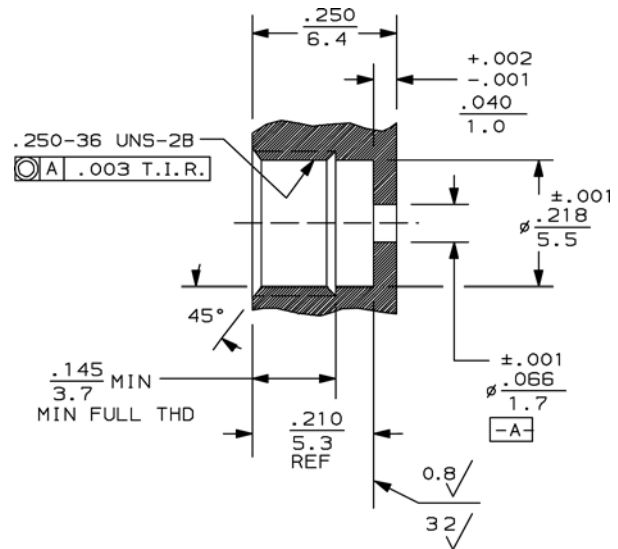

Figure 2
1. Refer to Figure 2, and drill a hole in the panel to the diameter shown. Using the step reamer, ream the hole to the depth shown. Using the bottoming tap, tap the thread to the depth shown.